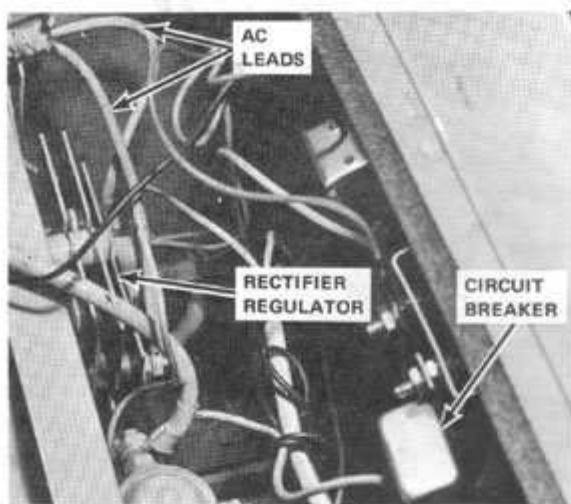

Figure 23
The Alternator system provides electrical energy to charge a 12 volt battery and also for lighting. Engine has the 30 amp Alternator system with the Rectifier-Regulator Assembly which is externally mounted on the heat shield. The Rectifier-Regulator Assembly is shown in Figure 23. In addition to the Rectifier-Regulator, the Alternator system has two other basic components which are: the permanent field magnet ring and the Alternator-stator. The flywheel must be removed to gain access to these two components.
7. Make sure AC leads are protected from being grounded at all times. Refer to Figure 23.